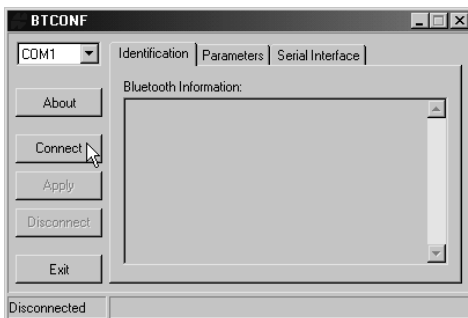

Figure 3-11. Select Communication Port and Click Connect
4. From the drop-down list in the upper left corner, select the computer serial port (usually COM1) used for communication. Click **Connect** to connect the computer and Bluetooth module (Figure 3-11).